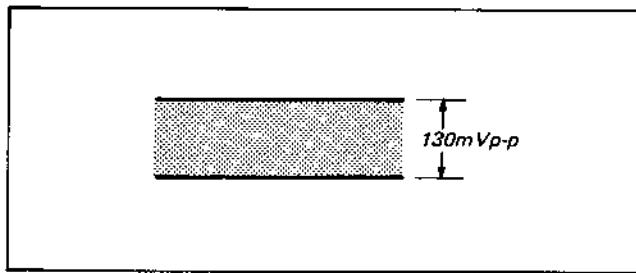

Fig. 4-4-30. Record current frequency characteristic adjustment
- (3) Adjust RV6 for a signal level of 130 mVp-p. (See Fig. 4-4-30.)